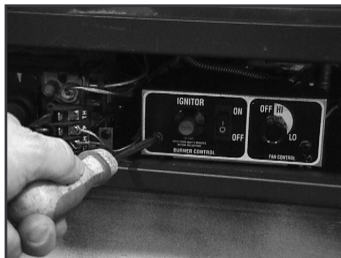

Figure 1BF
3. Remove the Switch Bracket by unscrewing the [2] screws located on each side. See Figure 1BF.